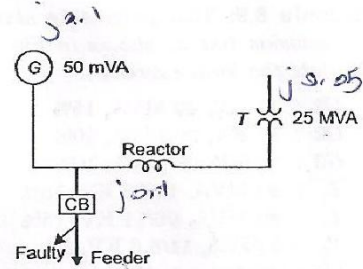

Fig. 8.9: Circuit diagram of Example-8.7.
**Solution:** Circuit connection is shown in Fig. 8.9.